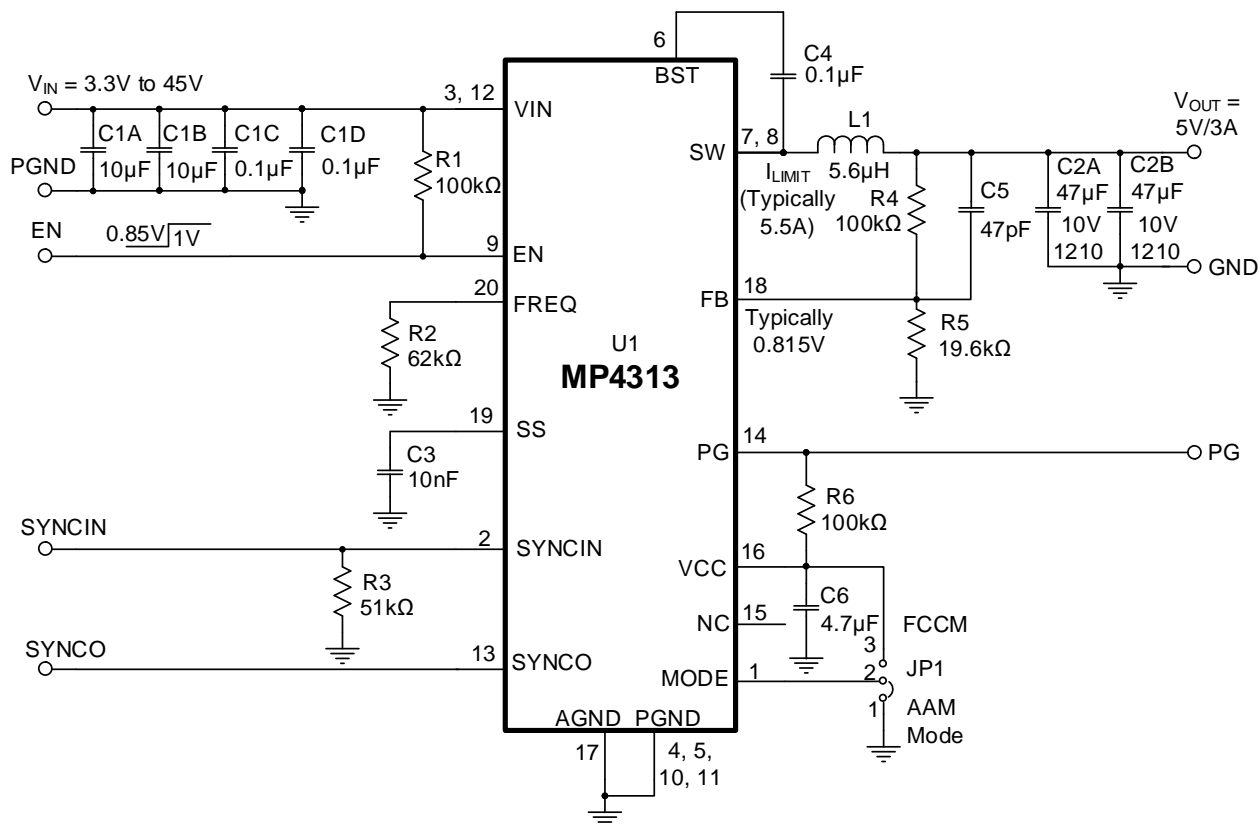

Figure 10: Typical Application Circuit ($V_{OUT} = 5V$, $f_{sw} = 470kHz$)
- 10) The recommended PCB layout is based on Figure 10 on page 32.